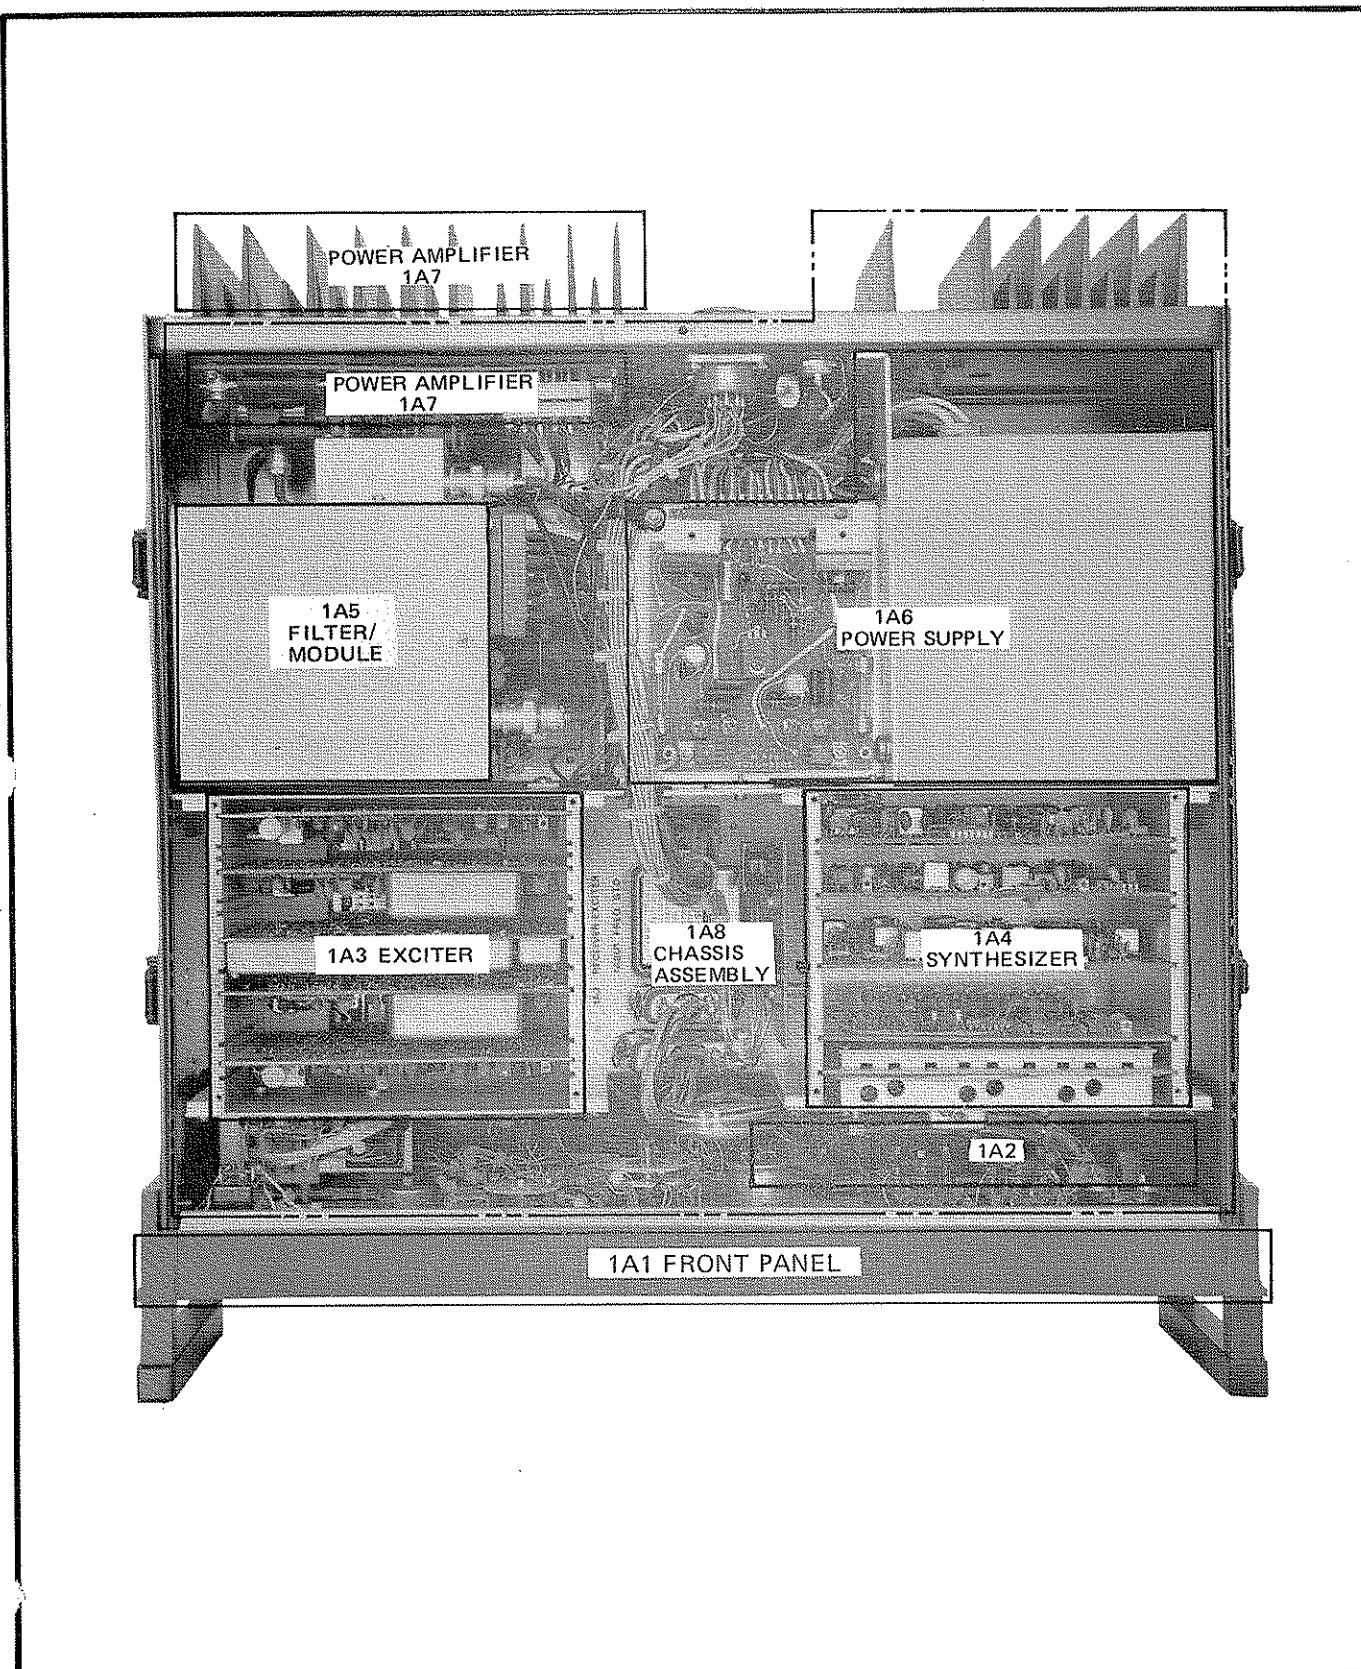

Figure 1.1 GSE-924, Major Assembly Locations
The GSE-924 is composed of seven major sub-assemblies, (1) front panel 1A1, (2) antenna coupler control panel 1A2 (optional), (3) exciter 1A3, (4) synthesizer 1A4, (5) filter module 1A5, (6) power supply 1A6, (7) power amplifier 1A7. See Figure 1.1 for major assembly location.